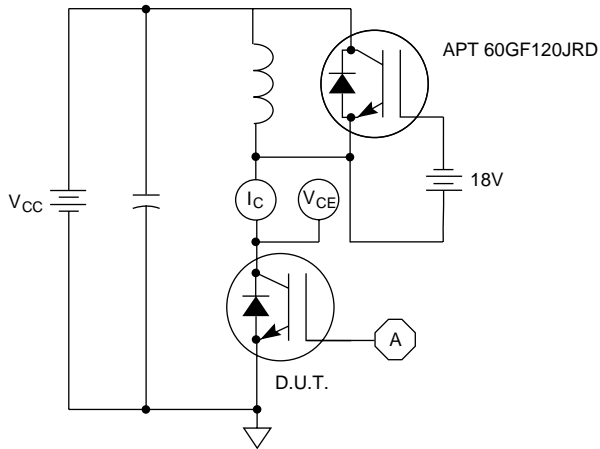

Figure 21. Inductive Switching Test Circuit
- ⑤  $E_{on2}$  is the clamped inductive turn-on energy that includes a commutating diode reverse recovery current in the IGBT turn-on switching loss. A Combi device is used for the clamping diode as shown in the  $E_{on2}$  test circuit. (See Figures 21, 22.)
- ⑥  $E_{off}$  is the clamped inductive turn-off energy. (See Figures 21, 23.)